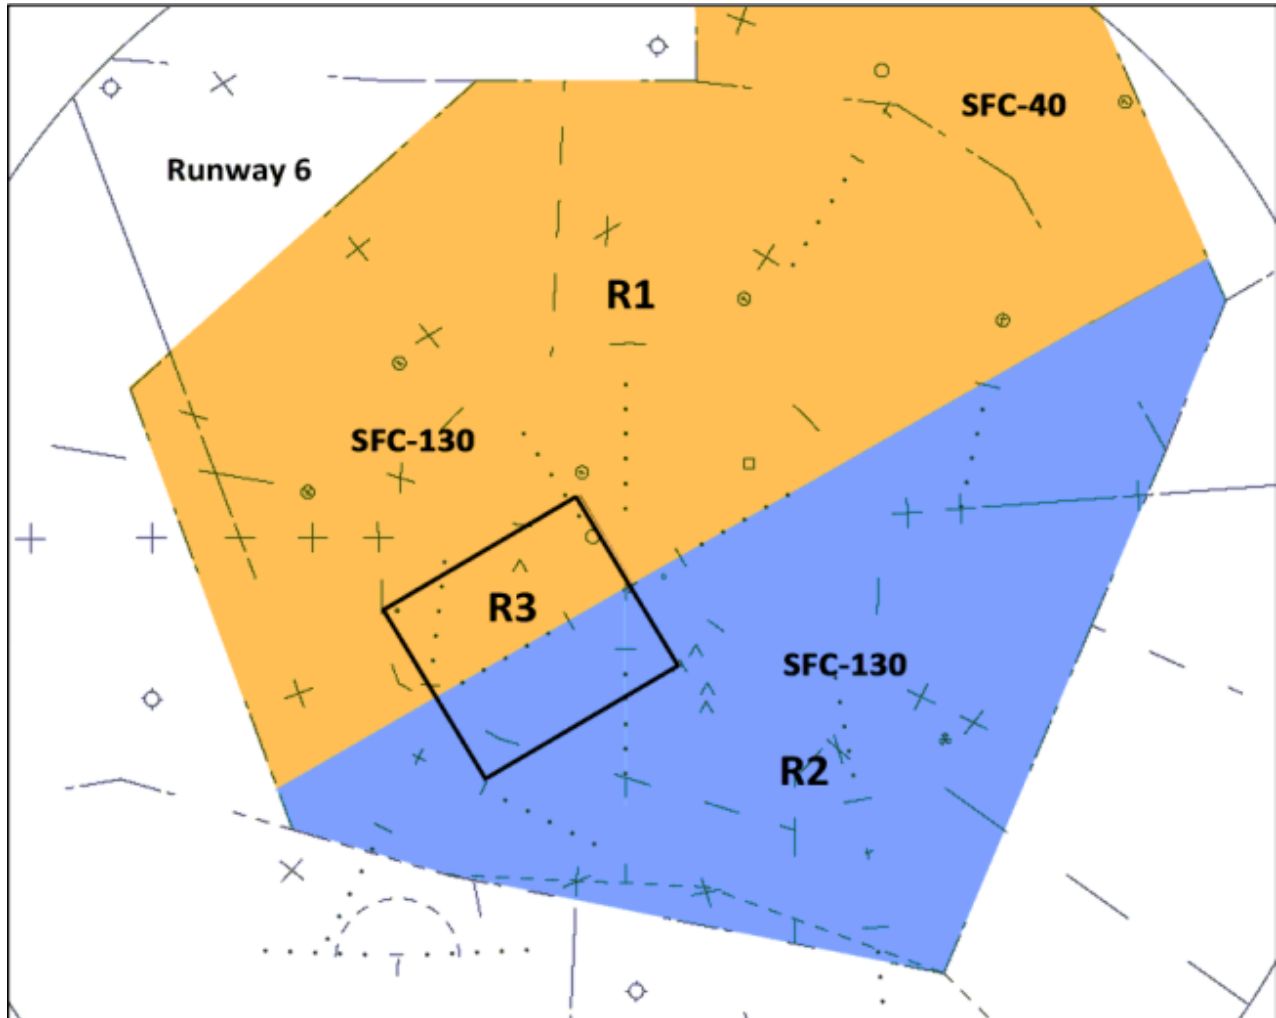

Figure J-2
- 1) R1 (G) – R1 is the north feeder position as depicted in figure J-2. The airspace extends from the surface to the upper limits of our approach airspace.
- 2) R2 (S) – R2 is the south feeder position as depicted in figure J-2. The airspace extends from the surface to the upper limits of our approach airspace.
- 3) R3 (X) – R3 is the final position as depicted in figure J-2. The airspace extends laterally 7NM either side of the final approach course out to a 20 NM final (excluding ATW ATCT Airspace). The airspace extends vertically from the surface to 6000 MSL.